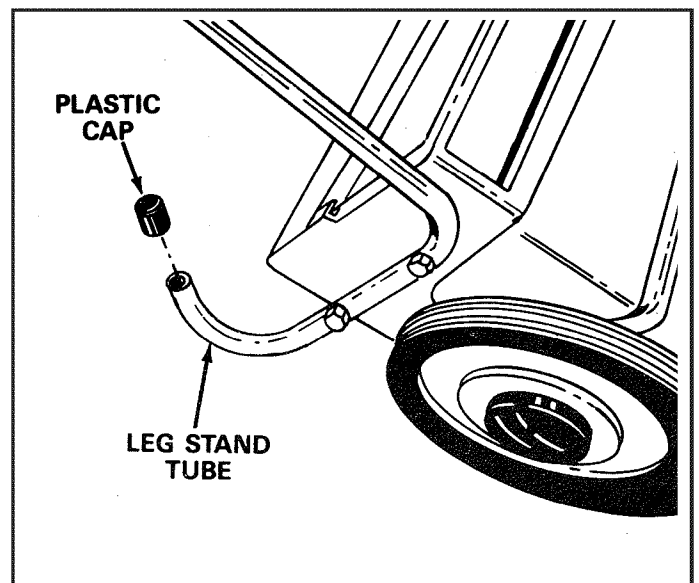

FIGURE 6
- Assemble the two plastic caps 3/4" x 7/8" onto the ends of the leg stands as shown in figure 6.